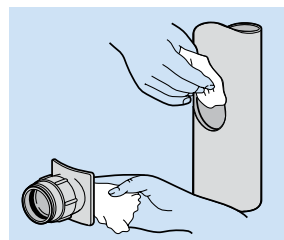

Fig. 47
- Once satisfied that the boss fits neatly into the pipe remove and clean all mating surfaces with Terrain cleaner 9101 (Fig. 47).